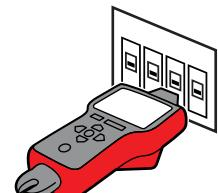

Figure 3.5b
- a) The unit will automatically start in **1 <logo> SCAN** mode as shown in Figure 3.5b.